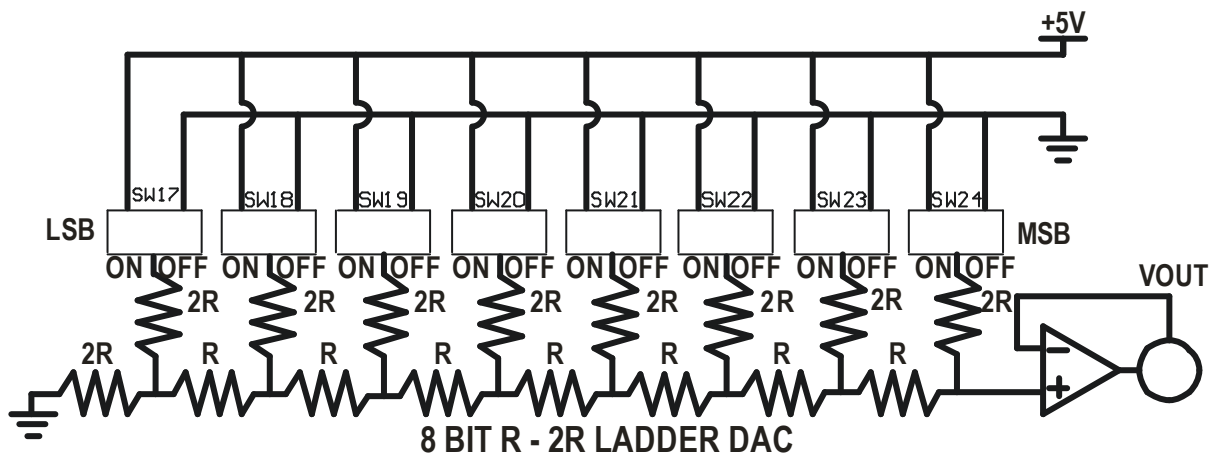

FIGURE-2.1
It is constructed of resistors that have only two values. We can see from the FIGURE-2.1 that total resistance looking from any node back towards the terminating resistor or out towards the digital input is 2R. We can use the resistance characteristics of the ladder to determine the output voltage for the various digital inputs. Ladder is composed of linear resistors, it is a linear network and the principle of superposition can be used. This means that the output voltage due to combination of input digital level can be found by simply taking the sum of the output levels caused by each digital input individually. To keep the ladder in perfect balance and to maintain symmetry, the output of ladder should be terminated in a resistance of 2R. This will result in lowering of output voltage, but if the 2R load is maintained constant, the output voltage will still be a properly weighted sum of binary input bits. If load is varied, the output voltage will not be a properly weighted sum hence load should be kept constant.
- 2) Give the desired logic input to the converter from on board slider switches of 8 BIT R/2R LADDER DAC SECTION as shown below in FIGURE-2.1